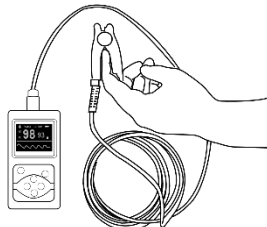

Figure 6. Sketch map for finger placement
- The finger should be placed correctly (see Attached figure 6), as improper assembly or improper contact position for sensor will influence the measurement.
- A. Insert the finger into the probe as shown in Figure 6.
(The appearance of actual probe may be different with the one shown as Figure 6, please refer to the actual probe.)